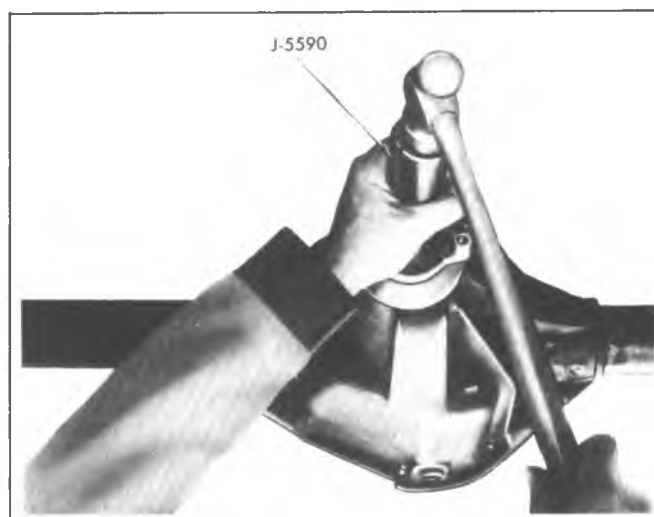

Fig. 24F--Installing Pinion Flange
7. Install shims and outer pinion cone and roller on pinion shaft using Tool J-5590 and companion flange to press bearing onto pinion, as in figure 24F.